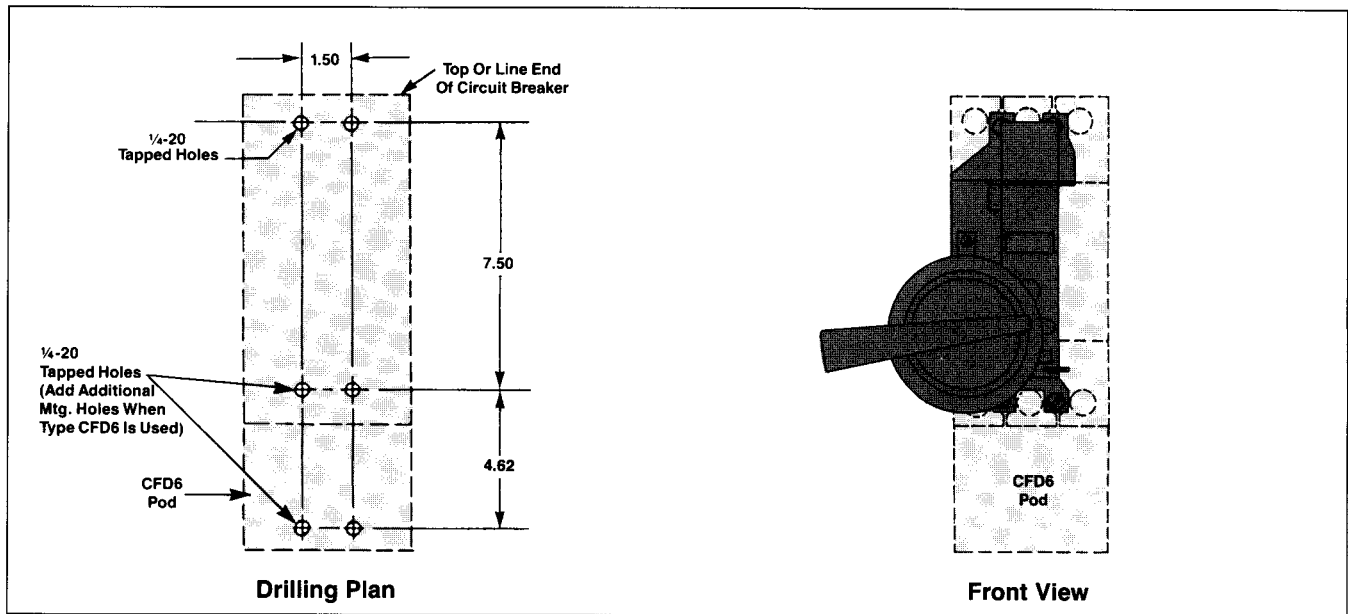

Figure 1
- Drill and tap breaker mounting holes as shown in Figure 1.